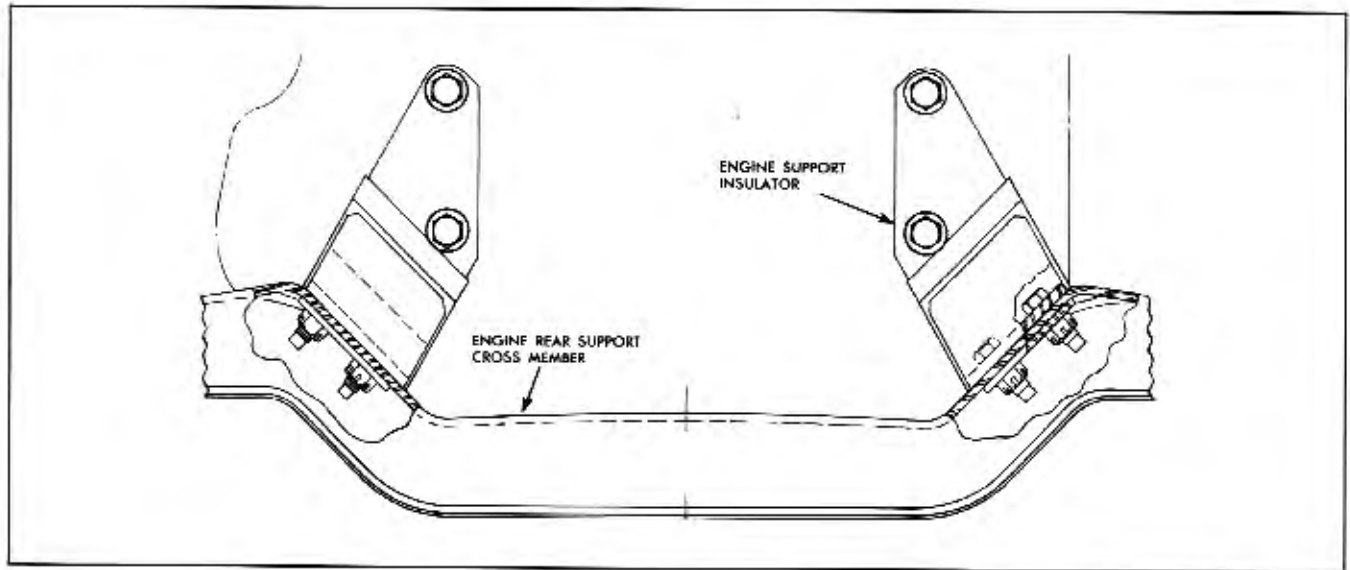

Fig. 6-23 Engine Rear Insulator Mounting
5. Lower engine so rear insulators are resting on frame cross member and insert insulator to frame bolts from top. Install self locking nuts (Fig. 6-23) and tighten to 35 lb. ft. torque.